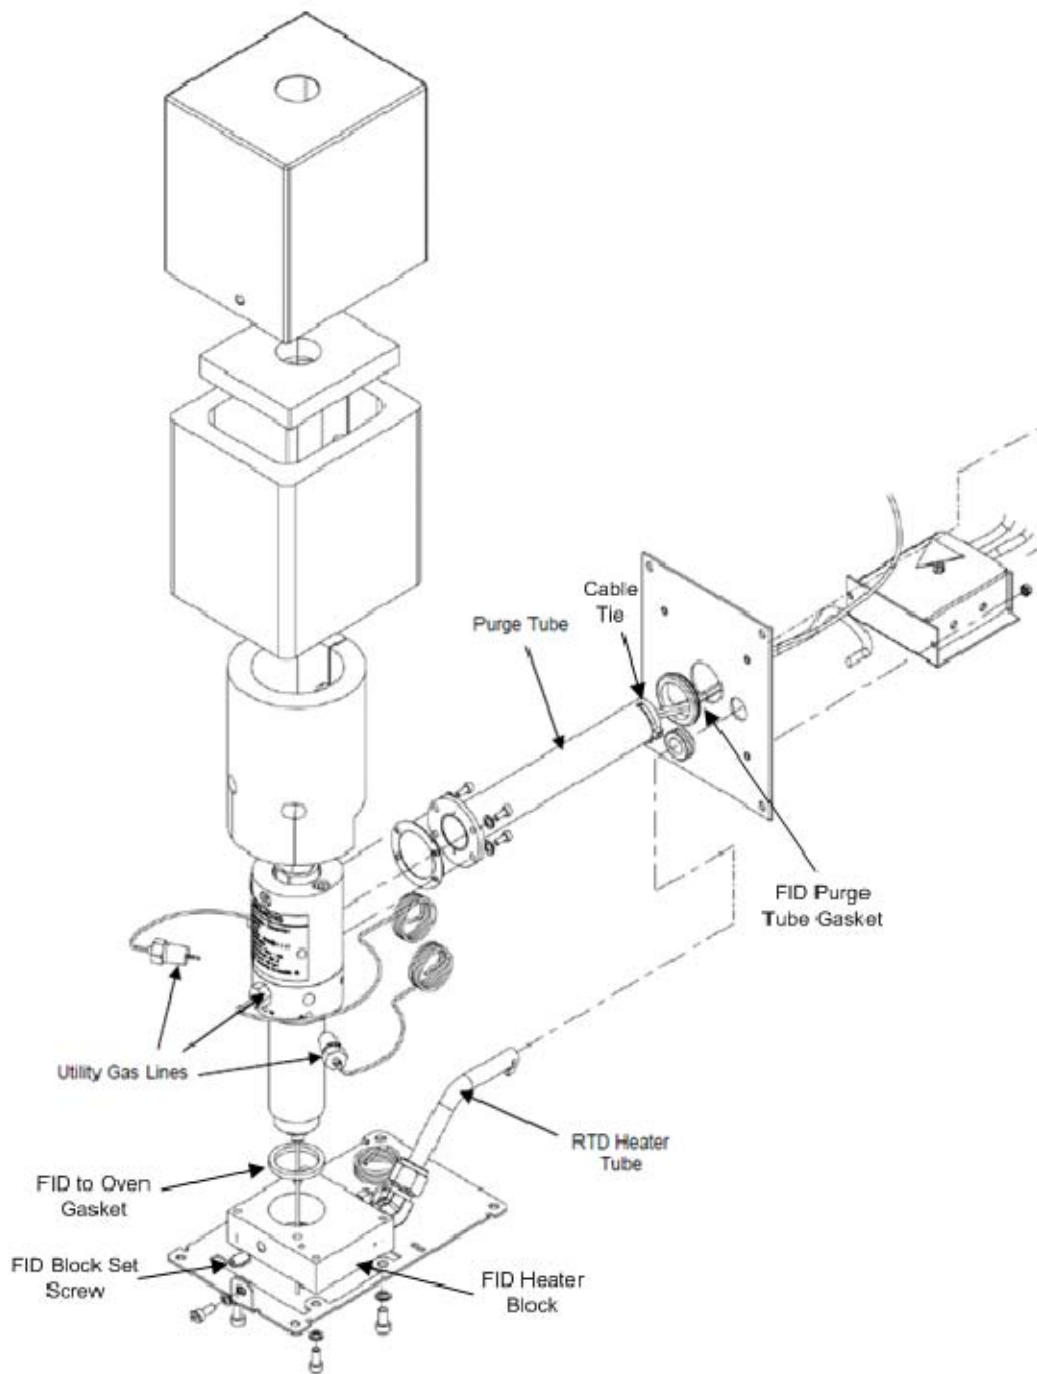

Figure 3
11. Temporarily label the utility gas line leads to make sure they can be reconnected correctly. Refer to Figure 3.
14. Cut the cable tie at the back of the FID purge tube using wire cutters. Refer to Figure 3.
15. Remove the four M3 screws that secure the purge tube to the electrodes of the detector using a 2.5mm Allen wrench. Refer to Figure 3.
17. Loosen the FID block set screw. Refer to Figure 3.
18. Remove the FID Module assembly by pulling up and then out when the FID bottom body clears. Set the FID to Oven gasket aside, if damaged it will need to be replaced (2021264-001). Refer to Figure 3.